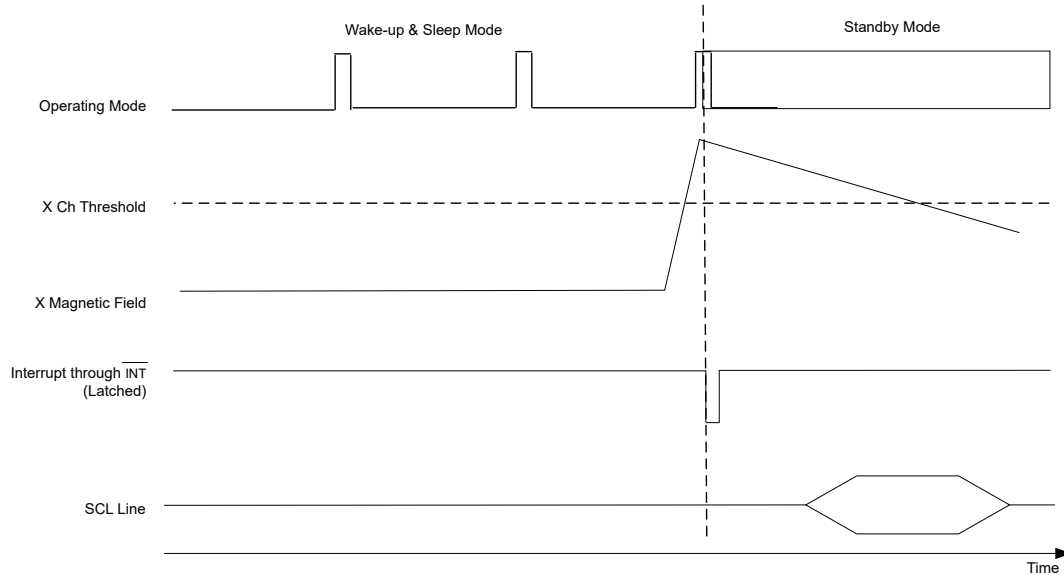

図 7-11. Wake-Up and Sleep Mode Operation With Back-Up Battery
- If a threshold detection even occurs, the $\overline{\text{INT}}$ signal asserts low to wake-up the microcontroller. When $\overline{\text{INT}}$ goes low, perform the 16-bit T, X, Y, Z register read with one single read command (see Figure 7-11).